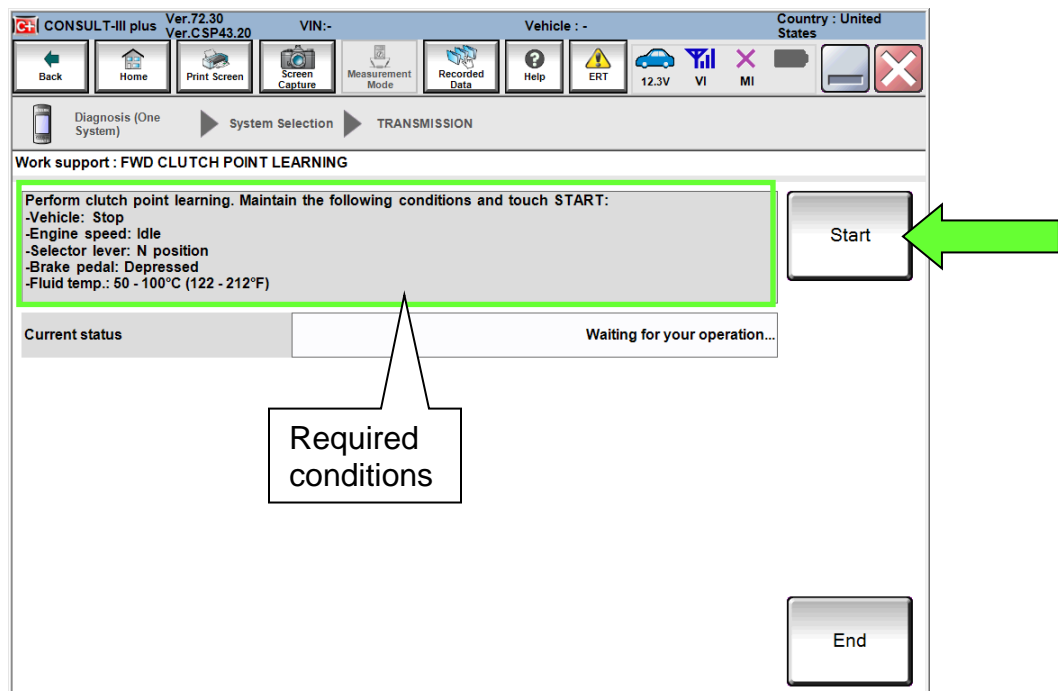

Figure 8L
- Confirm that all of the conditions indicated in Figure 8L are being met.
17. While maintaining all conditions shown in Figure 8L and the Current status indicates EXECUTING, shift the CVT into **R** and then wait until the Current status indicates COMPLETED.